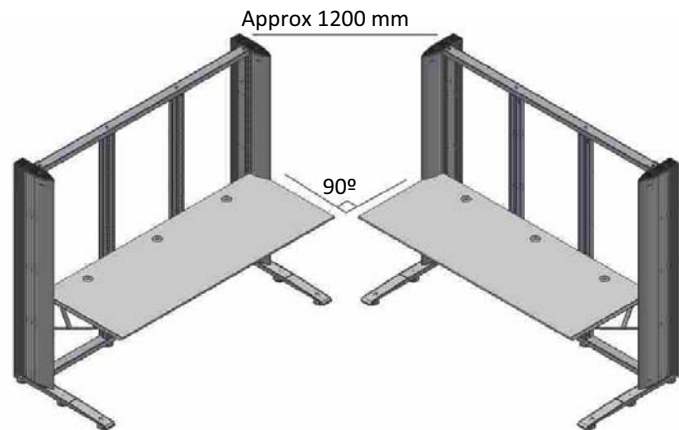

Fig 3
STEP 1: Fully assemble the corresponding **TL-TW structures** and position them as shown in Fig. 3, so that the space between structures is similar to the shape and size of the **corner table**.